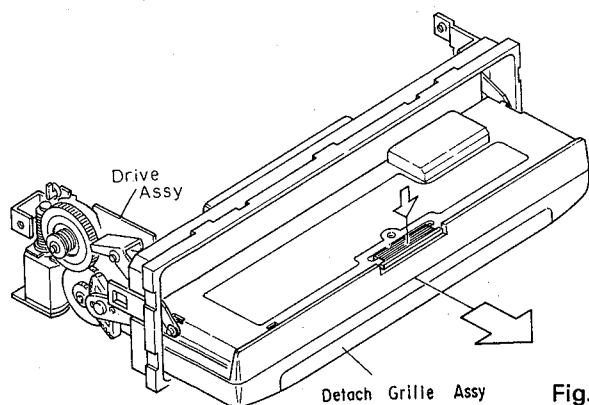

Fig.7
- 3.While holding down the lock button, pull the detach grille assy toward you.(Fig.7)